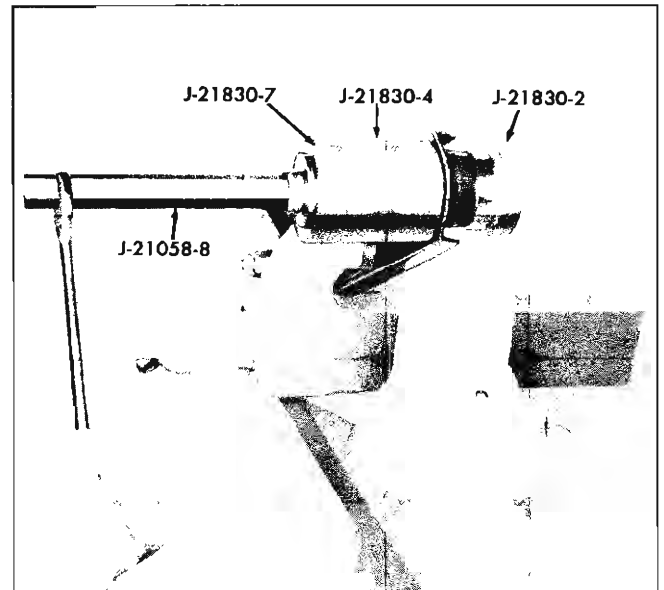

Fig. 21—Upper Control Arm Bushing Removal
2. Place Puller Screw J-21058-15 through Puller Adapter J-21830-2. Position puller screw through small end of bushing then install Receiver J-21830-4 and Bridge J-21830-7 over opposite end of bushing. Center receiver and bridge over flanged end of bushing then position thrust bearing and Nut J-21058-8 on puller screw. Refer to Figure 21 for installation of removal tools.